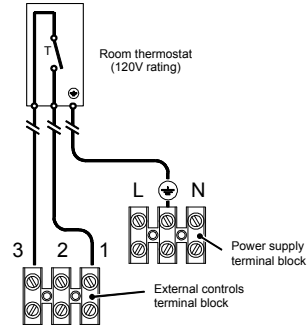

Figure 12.7
- Connect the room thermostat between terminals 1 and 3 as shown in Fig. 12.7.